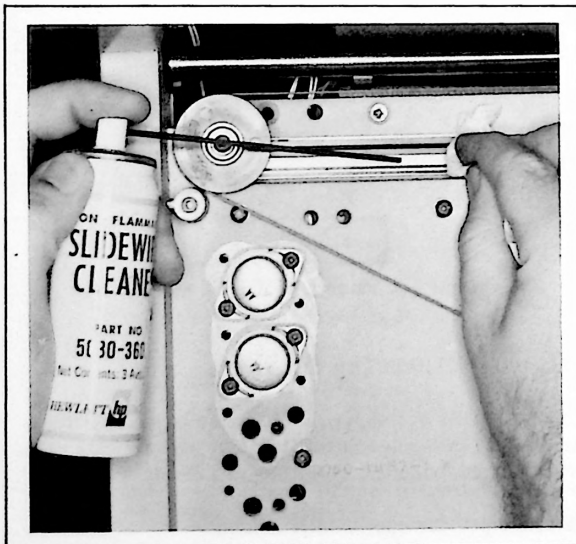

Figure 5-1. Potentiometer Cleaning
c. Lift pen holder up. Raise pen scale. Slidewire is accessible. See Figure 5-1.
e. Thoroughly saturate a Kimwipe or cotton swab with cleaner. Rub potentiometer along entire length using tissue or swab. See Figure 5-1.